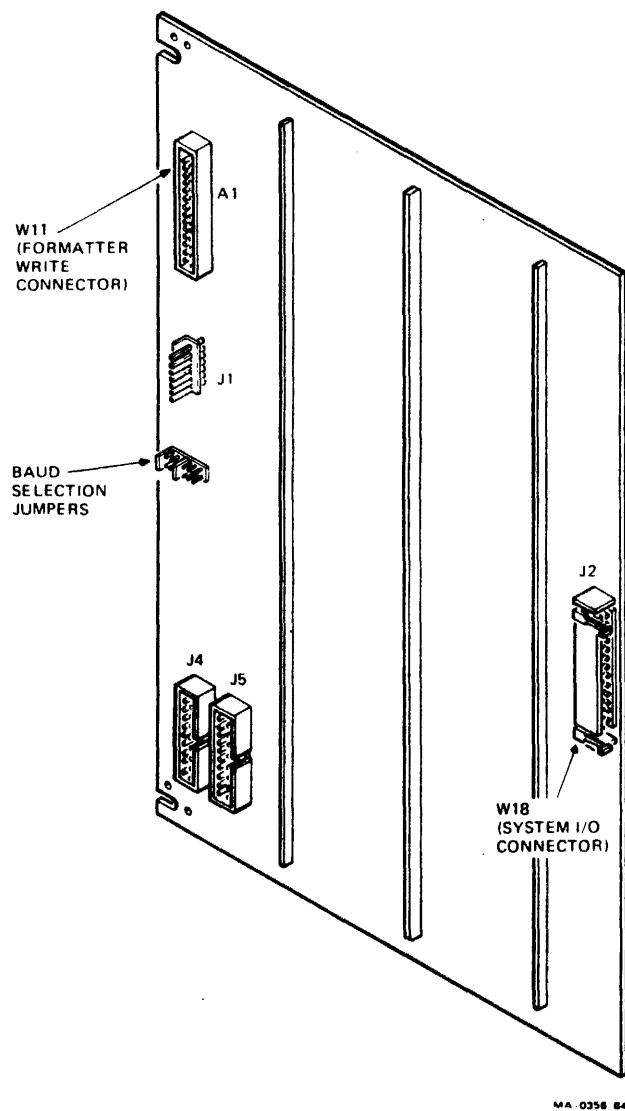

Figure 5-32A. TMSCP INTERFACE
3. When removing a TMSCP Interface Controller module, remove connectors W17P1, W15P1, W11P, and W18 (I/O cable). Refer to Figure 5-32A.